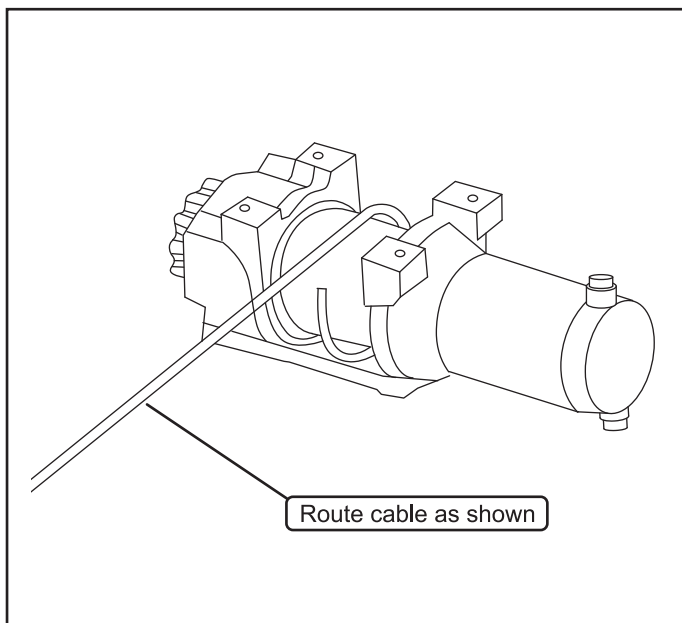

Figure 5.
4. Install your winch into winch mount (A) with the hardware provided with your winch. Orient the winch and cable as shown in figure 5.